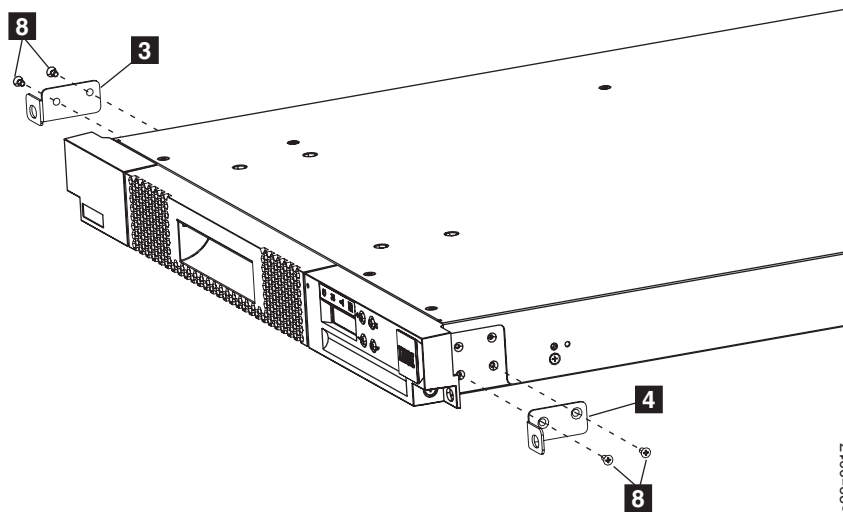

Figure 8-6. Removing the front brackets from the library chassis
12. Remove the flat-head screws **8** to remove the left **3** and right **4** front brackets from the front of the library chassis (Figure 8-6).